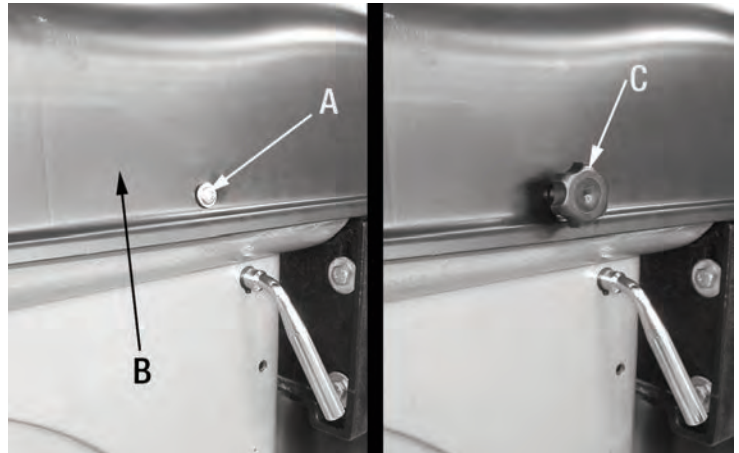

FIGURE 12
- 1) For safety reasons, user may be required to lock the pulley cover (B) Fig.12 to prevent easy access to the pulleys. This can be done by using the small pan head screw (A) which came installed.
- 2) If safety is less of a concern, you can install the lock knob (C) Fig.12 to the pulley cover (B) instead.